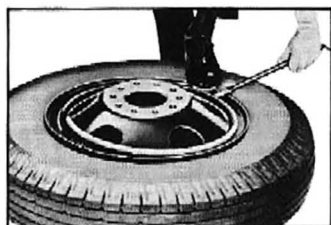

Fig. 81—Installing Clamp Ring
5. Place side ring into position on tire and rim; press side ring into tire and onto rim using the tapered end of tire iron until the clamp ring gutter is exposed. Insert end of clamp ring in gutter and work progressively around the tire until the clamp ring is seated in the gutter (fig. 81).